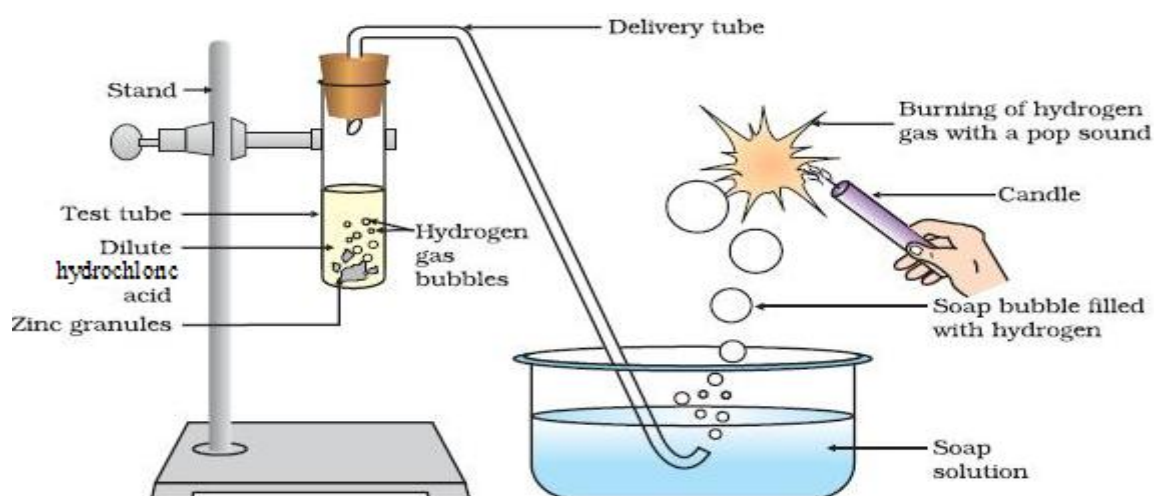

Figure 3: Reaction of zinc with HCl
6. Ignite a wooden splint or candle using a match, introduce the lighted splint/ candle at the top of the soap solution as shown in figure 3.